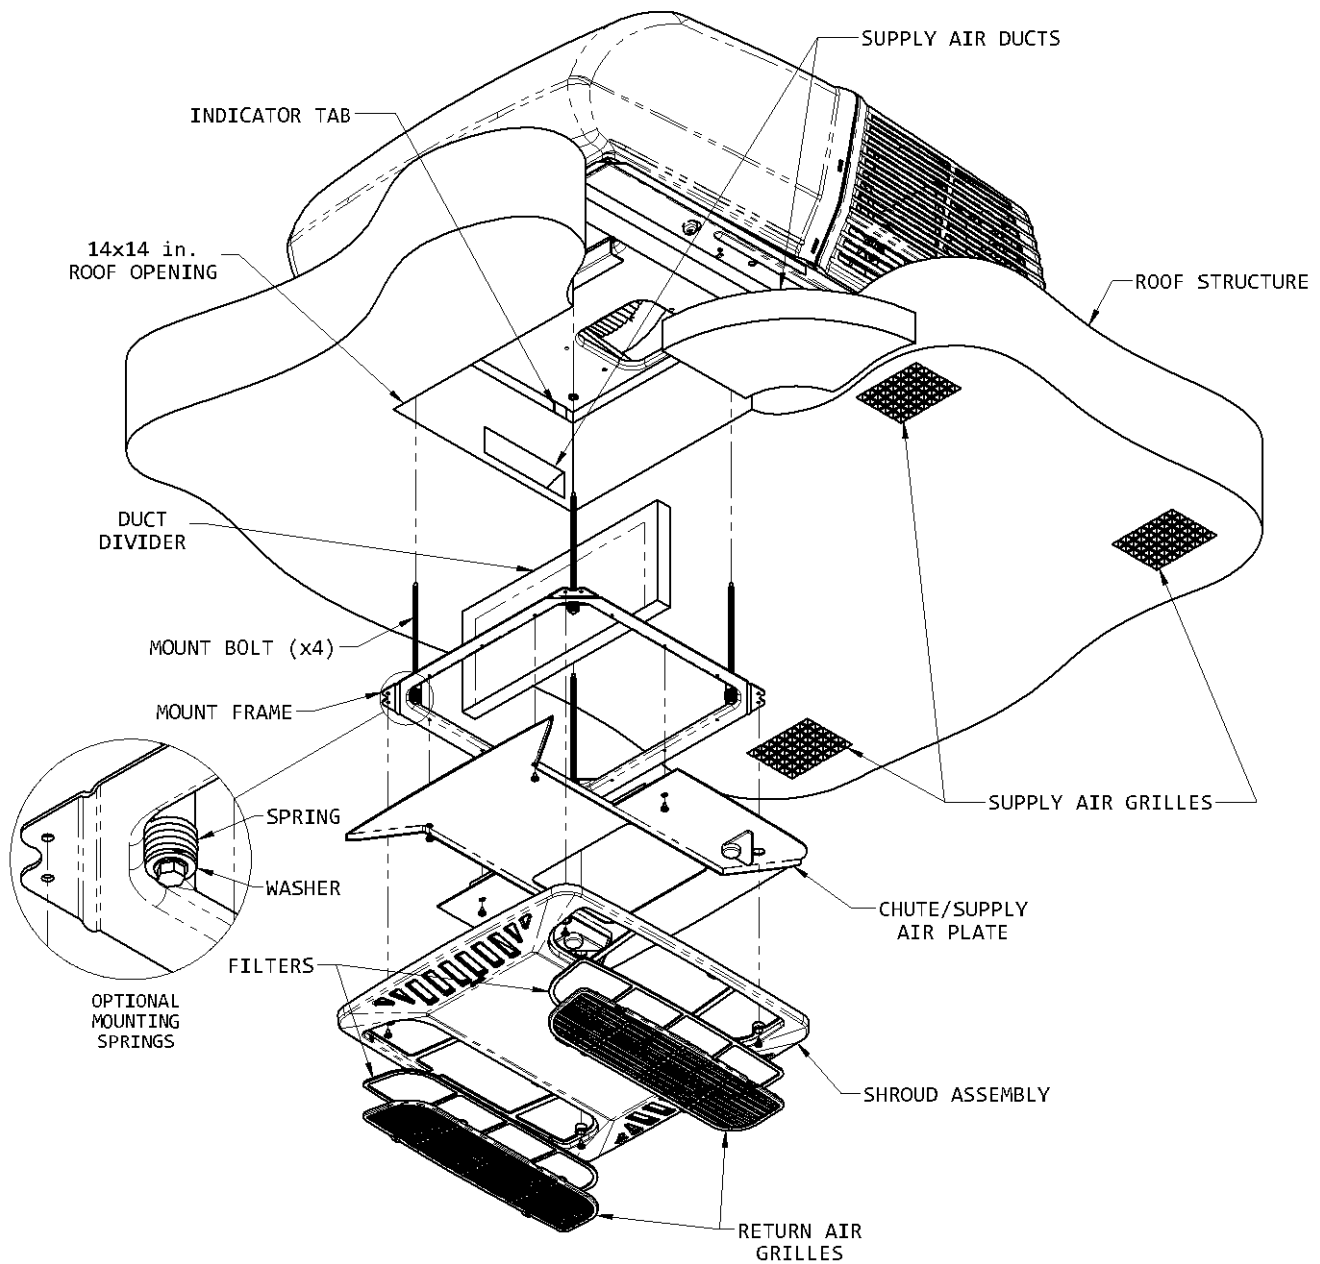

FIGURE 1
1. The field fabricated supply ducting must attach to both sides of the ceiling plenum. A minimum of two ducts are required, with one duct attached to each side of the plenum (See Figure 1).
- 2. Position the mount frame into the ceiling opening (See Figure 1).
- 3. Using the four bolts provided, secure the mount frame to the roof top unit. The four mounting bolts are to be applied up through the bottom of the mount frame and into the bottom of the roof top unit (See Figure 1). Tighten each bolt until the indicators of the gasket are at roof level.
1. Raise the chute/supply air plate to the mount frame and ensure the plenum duct divider is positioned between the two ribs. Install the chute/supply air plate to the mount frame with 4 screws provided in the parts package (See Figure 1).